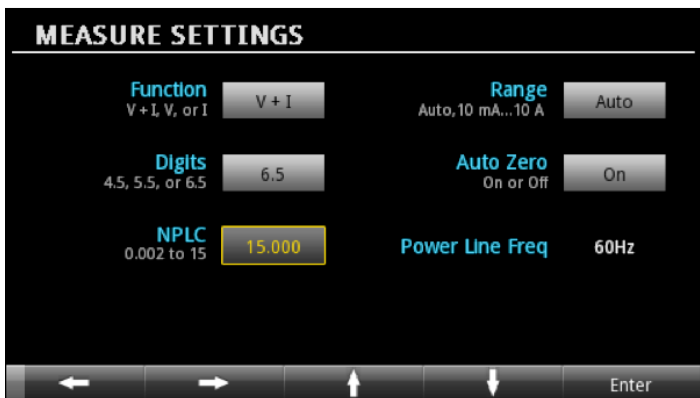

Figure 6. Series 2280S measure settings for low current measurements
- Set the instrument to 6½ digits of resolution (*Figure 6*).